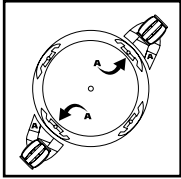

FIGURE 2
3. With tank inlet facing you, take caster feet marked with the letter **A**, **FIGURE 2**, and place in the slots on left front and right rear of tank also marked with the letter **A**.